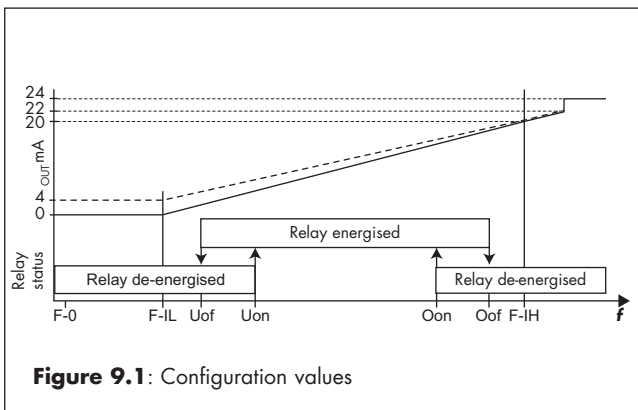

Figure 9.1: Configuration values
9.1.4 Configuration (figures 9.1 and 9.2)
9.1.4.2 Switching thresholds (figure 9.1)
Once the parameters tb and nt have been set, all the threshold values will be in the user-defined units. The difference between the switch-on and switch-off threshold values allows user-defined switching hysteresis to be set. The limit value relay and current output performance are illustrated in figure 9.1.